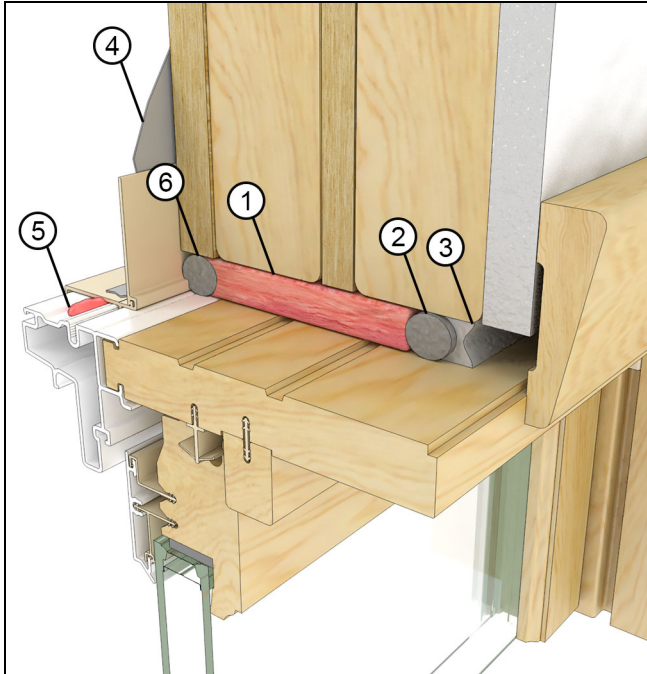

Figure 19
1. Loose Fill Fiberglass Insulation. Insulate the RO cavity with loose fill fiberglass insulation. Install a backer rod and sealant at the interior plane of the RO to create a continuous air seal. See Figure 19.